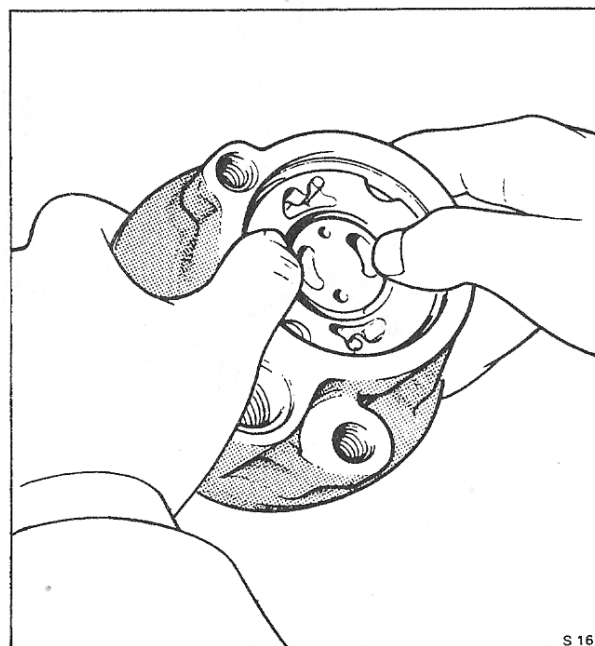

Fig. N23 Fitting the pressure plate
- 2 Dowel hole (2)
10. Apply pressure to the plate at its outer edges (see Fig. N23). Never apply great pressure or hammer the centre of the pressure plate as this will cause permanent distortion resulting in pump failure. The pressure plate will compress the seal by approximately 1.59 mm. (0.062 in.).